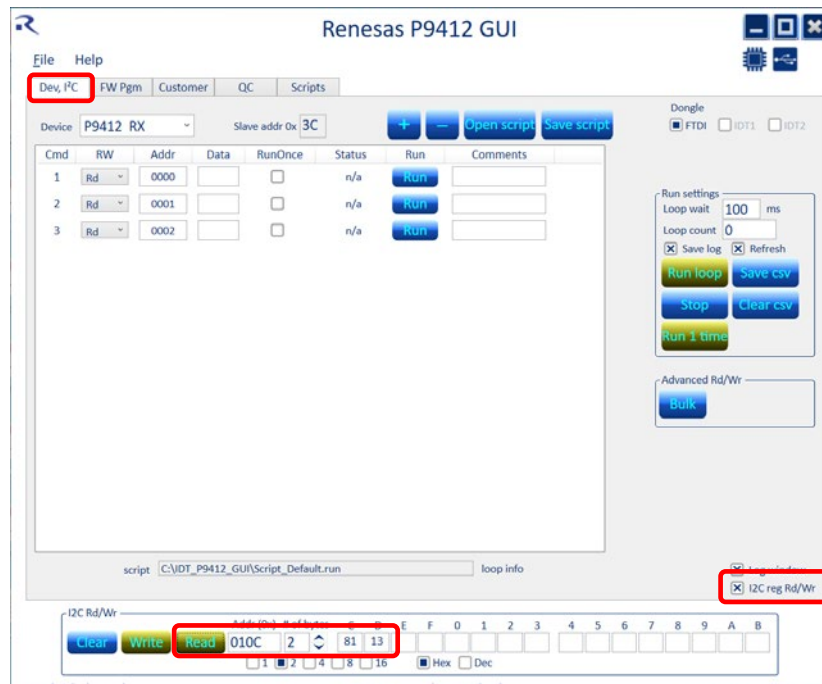

Figure 12. I2C Read / Write Registers
2. To read and write specific registers, select the “Dev, I2C” tab and click the “I2C reg Rd/Wr” box. The I2C Rd/Wr block will stay accessible when different tabs are selected (see Figure 12).